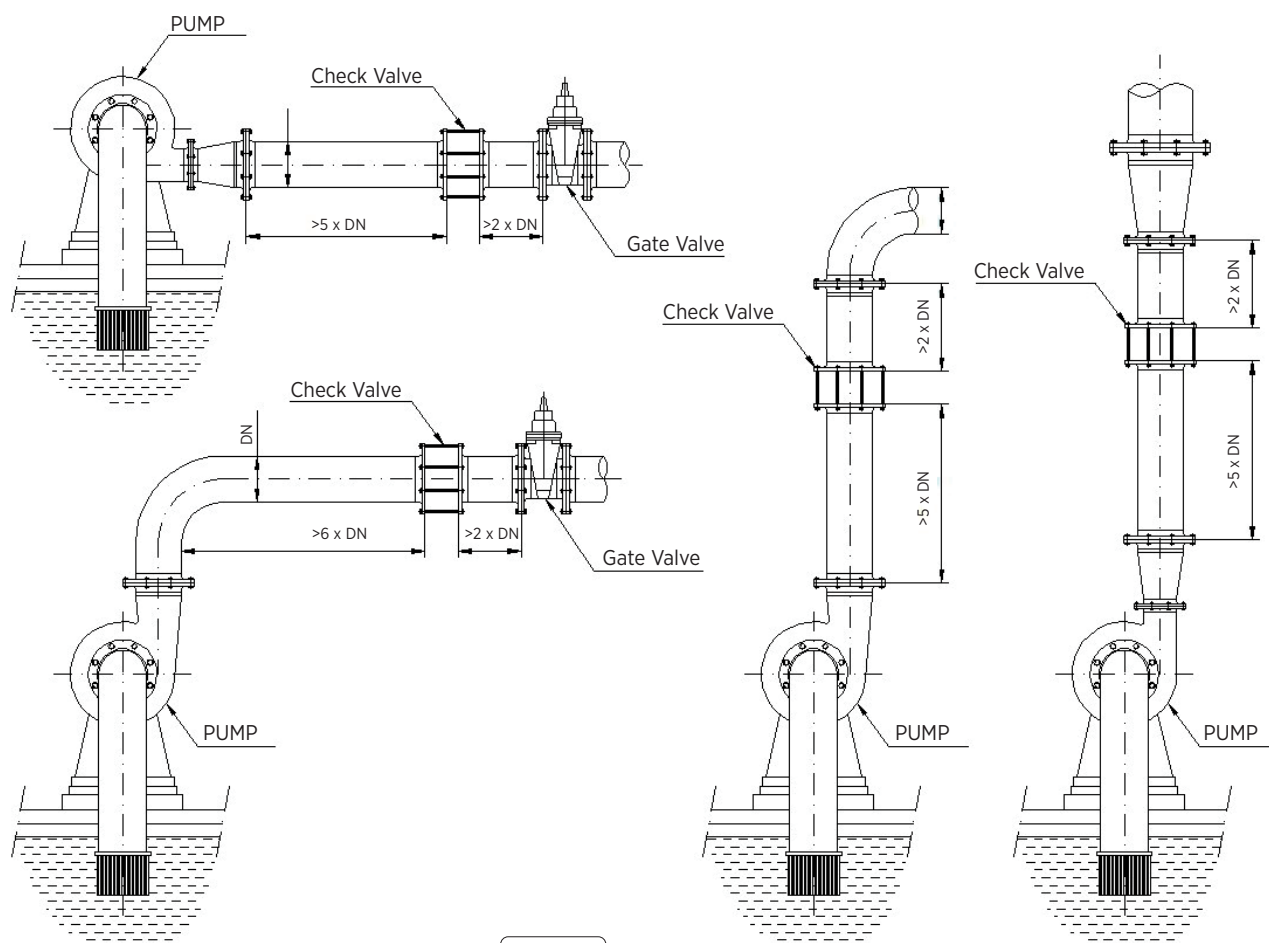

Fig. 3
- To ensure the valve's perfect operation, a minimum distance of straight conduit must be kept after the piping, for the free operation of the valve (fig. 3).